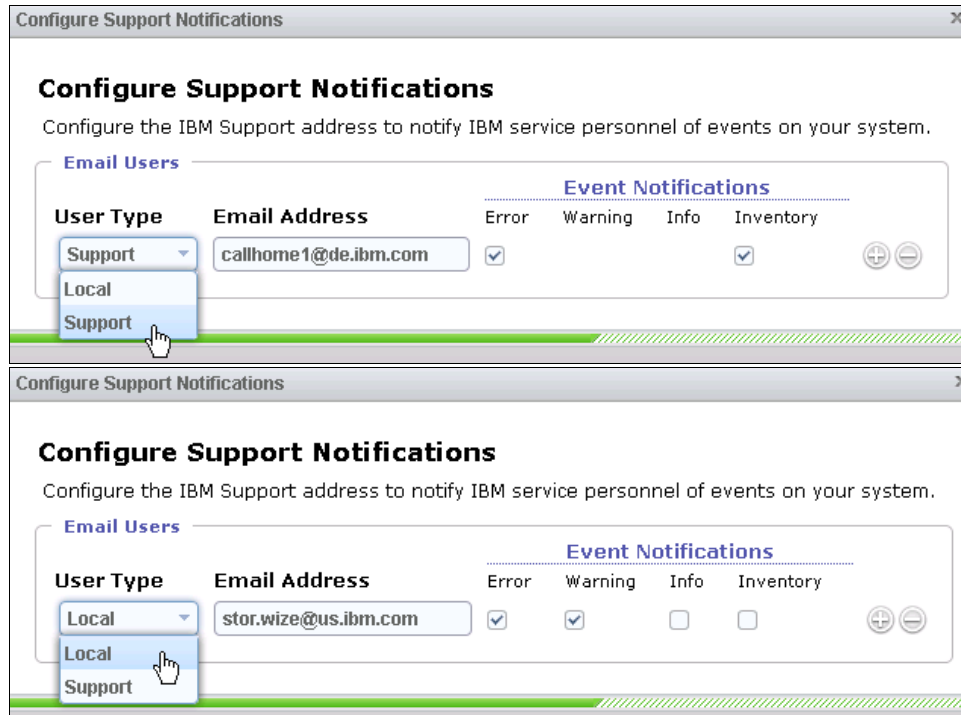

Figure 13-37 Setting email recipients
5. In the next step, configure and confirm email addresses of the IBM support (drop-down menu **Support**) or local user (menu **Local**). See Figure 13-37 on page 486 for details. In this wizard you can set only one email address. Other recipients can be added afterwards.